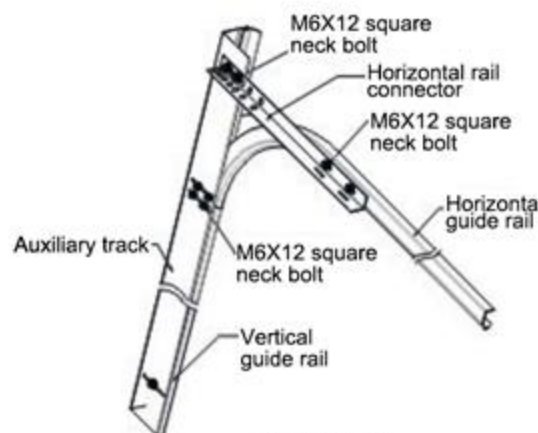

Figure 4-1
a. Connect the horizontal guide rail to the corresponding connecting hole on the upper part of the auxiliary rail with two M6X12 bolts, and fix the horizontal connecting bracket of the guide rail to the corresponding connecting hole of the auxiliary rail with M6X12 bolts. Do not fasten the bolts first; (Figure 4-1)